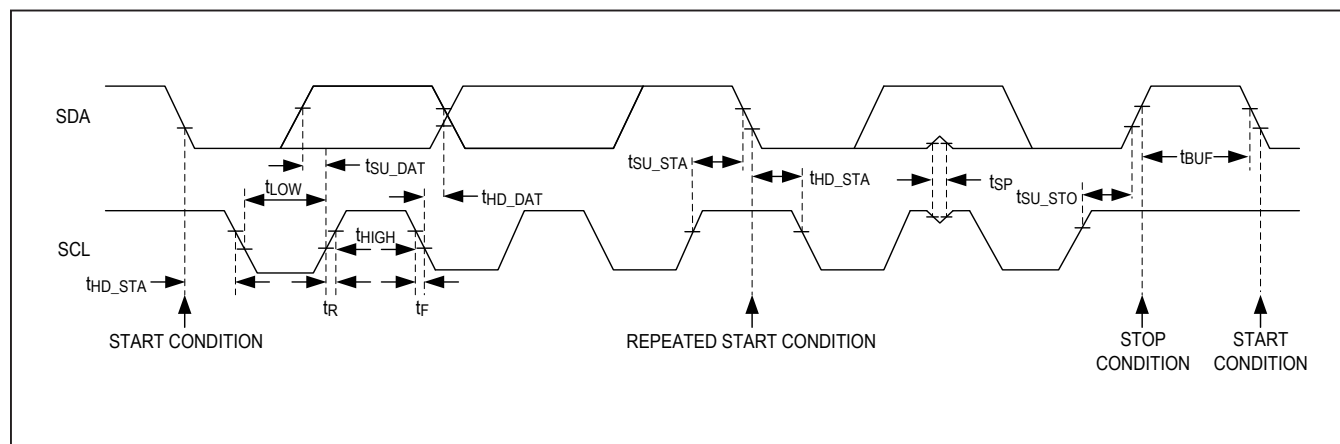

Figure 3. Detailed I²C Timing Diagram
The MAX30208 features an I²C/SMBus-compatible, 2-wire serial interface consisting of a serial data line (SDA) and a serial clock line (SCL). SDA and SCL facilitate communication between the MAX30208 and the master at clock rates up to 400kHz. Figure 3 shows the 2-wire interface timing diagram. The master generates SCL and initiates data transfer on the bus. The master device writes data to the MAX30208 by transmitting the proper slave address followed by the register address and then the data word. Each transmit sequence is framed by a START (S) or REPEATED START (Sr) condition and a STOP (P) condition. Each word transmitted to the MAX30208 is 8-bits long and is followed by an acknowledge clock pulse. A master reading data from the MAX30208 transmits the proper slave address followed by a series of nine SCL pulses. The MAX30208 transmits data on SDA in sync with the master-generated SCL pulses. The master acknowledges receipt of each byte of data. Each read sequence is framed by a START (S) or REPEATED START (Sr) condition, a not acknowledge, and a STOP (P) condition. SDA operates as both an input and an open-drain output. A pullup resistor is required on SDA. SCL operates only as an input. A pullup resistor is required on SCL if there are multiple masters on
The detailed timing diagram is shown in Figure 3.